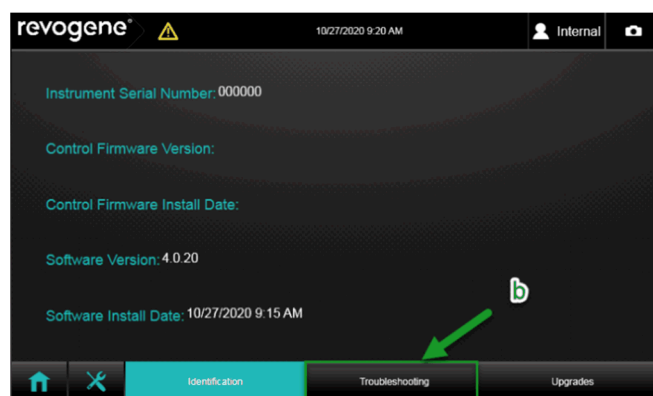

Figure 19. Troubleshooting Button
- b. Tap the "Troubleshooting" menu at the bottom of the screen (Figure 19).